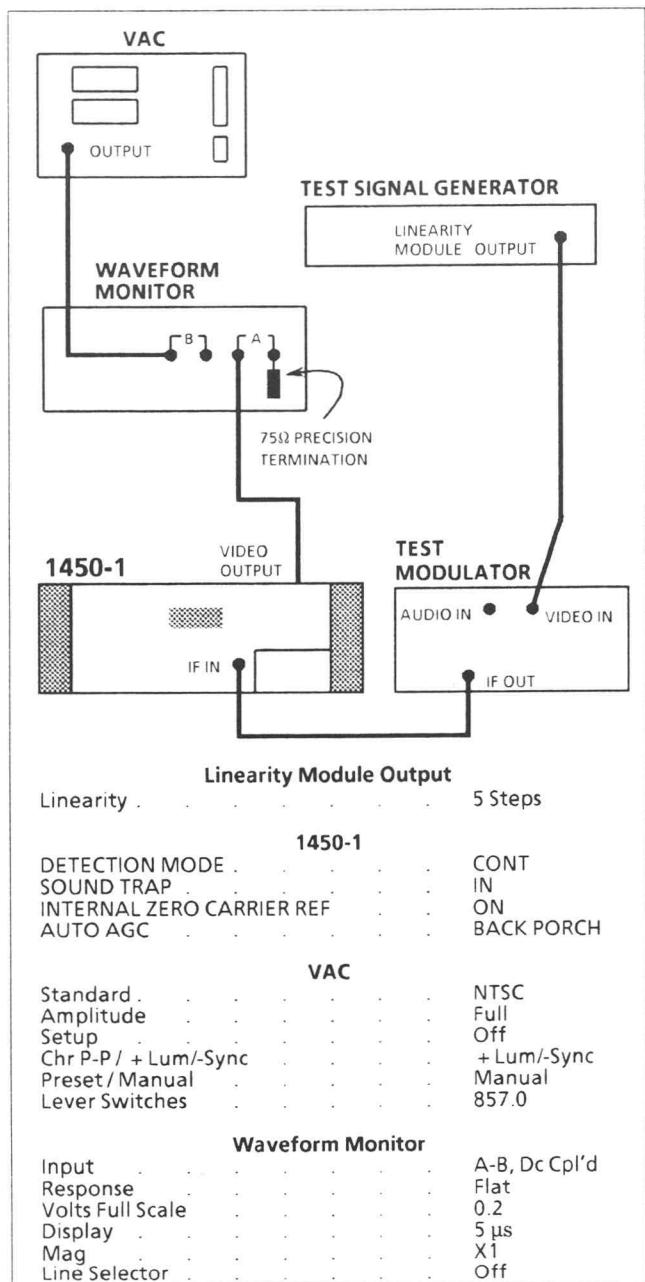

Fig. 4-11. Setup for checking video levels.
- a. Connect and set the test equipment as shown in Fig. 4-11.